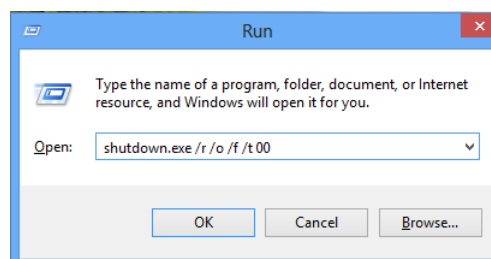
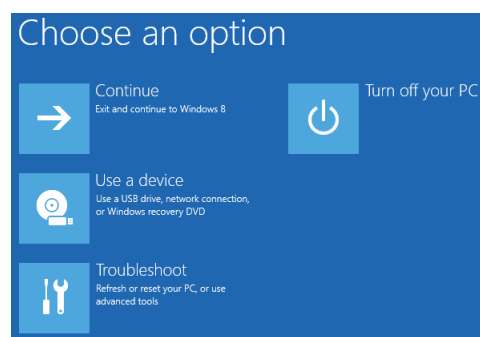

Figure 31. Step 1: Disable Windows 8 Driver Enforcement
Figure 32. Step 2: Disable Windows 8 Driver Enforcement
2. Type `shutdown.exe /r /o /f /t 00` in the Open field, then press the *OK* button (see Figure 31). A reboot occurs and the advanced startup menu is displayed (see Figure 32).